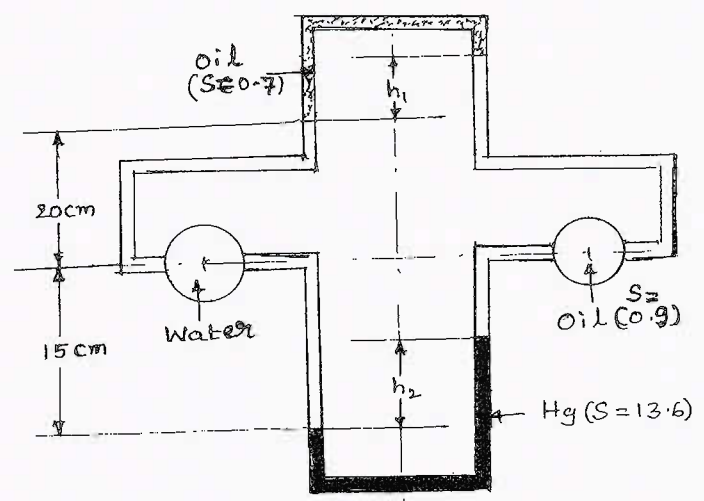

Fig.Q.2(b)
- b. Two U-tube manometers, one upright and other inverted type are connected across a water line and on oil line as shown in Fig.Q.2(a). If  $h_1 = 5\text{cm}$ , then what will be reading  $h_2$ ? (06 Marks)